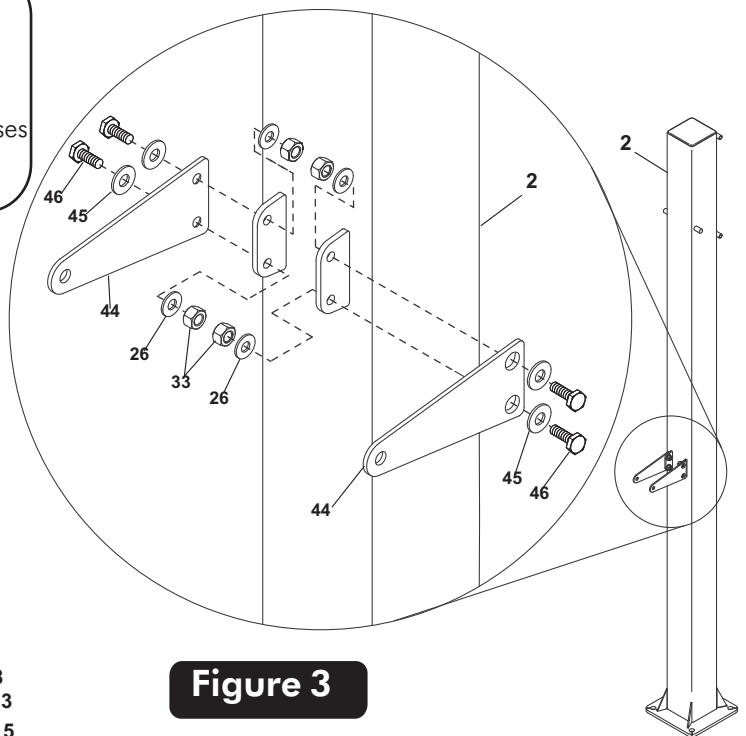

Figure 3
1. Attach Post Brackets (#44) to outside of brackets on back of Post Assembly (#2). Secure with two Hex Head Bolts (#46), two Flat Washers (#26), two Wide Flat Head Washers (#45) and two Locknuts (#33) **in each Bracket** (#44). See Figure 3. **Note:** Wide Washers (#45) go in between the Post Ears and Bolts (#46).